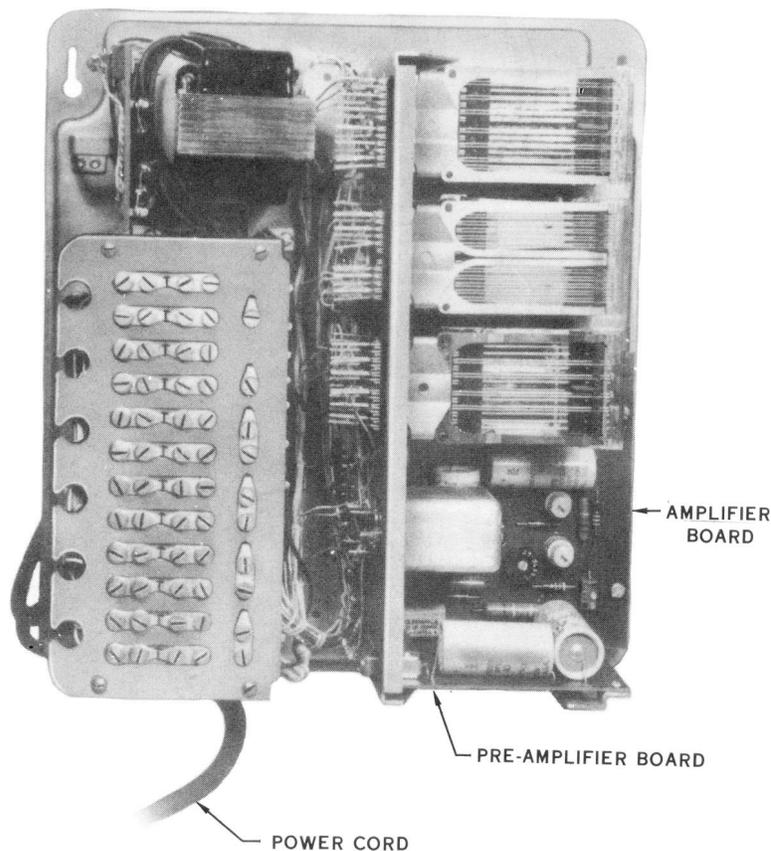

Fig. 2 - 54A Control Unit
- 54A control unit (Fig. 2).
2.03 The 54A control unit (Fig. 2) is housed in a metal apparatus box approximately 10-1/2 by 11 inches. The unit consists of four relays, an amplifier, a pre-amplifier, and a power supply. The four relays provide voice-calling, quieting